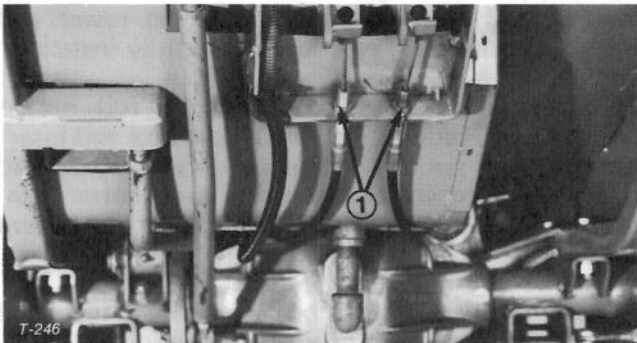

Figure 22
2. To reduce free travel of brake pedals — tighten the brakes — loosen front nut on threaded end of brake cable (Fig. 22). Then tighten rear nut to move cable backward until brake pedals have 1/2 to 1 inch (13 mm to 25 mm) of free travel. Tighten front nut after brakes are adjusted correctly.